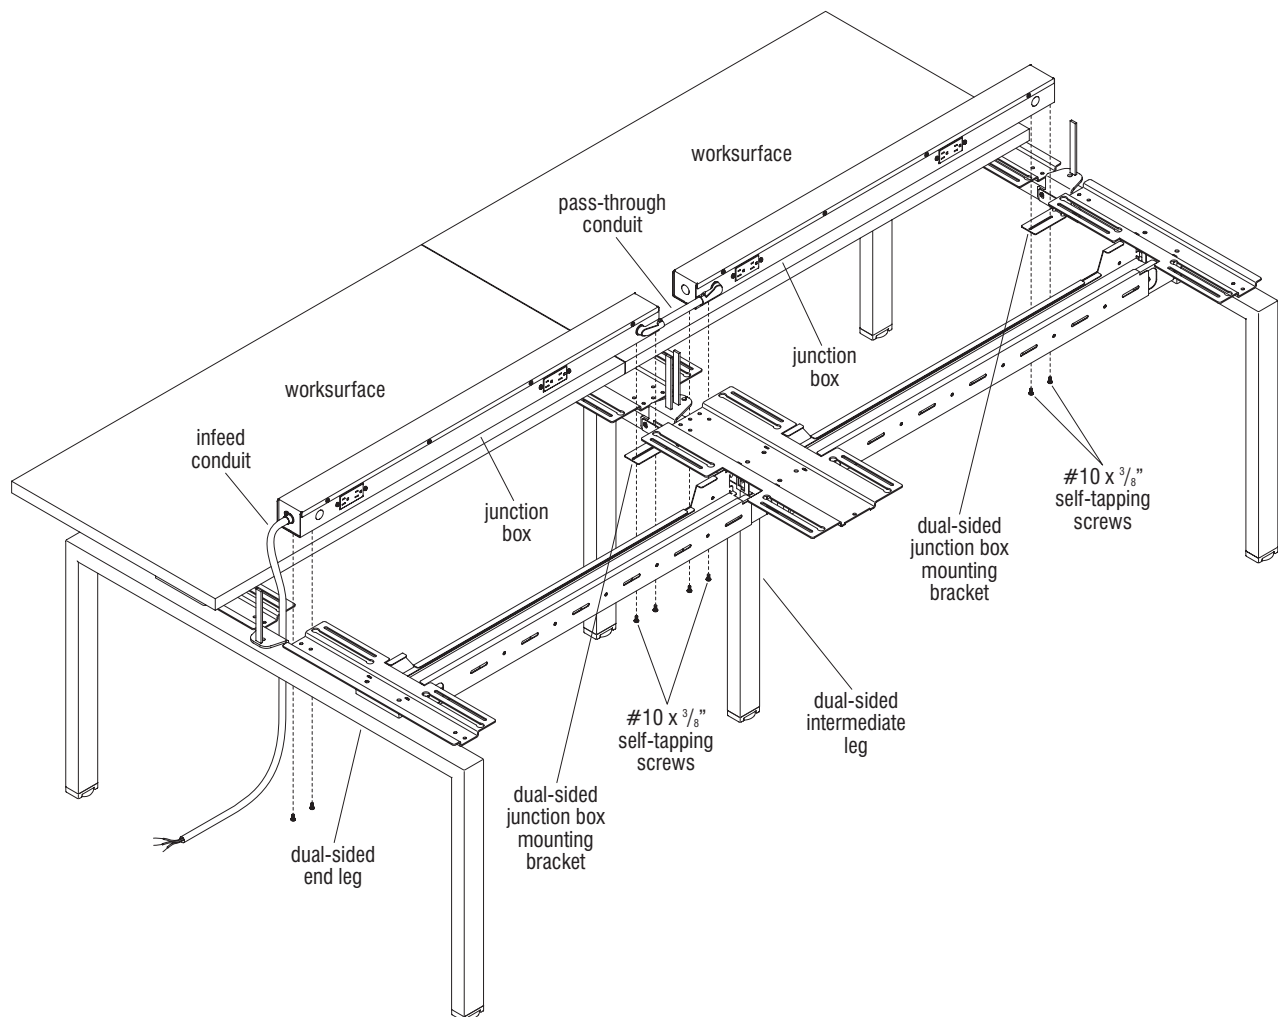

Figure 2
8. With the assistance of two or more people, move the hardwired electrical assembly down onto the installed dual-sided junction box mounting brackets while routing the pass-through conduit over the intermediate leg top. Also, make sure that the infeed conduit routes inside of the end leg as illustrated. Align the mounting holes of the hardwire boxes with the slot in each dual-sided junction box mounting bracket and secure using two #10 x 3/8" screws per bracket, four in total per hardwire junction box (Figure 2).